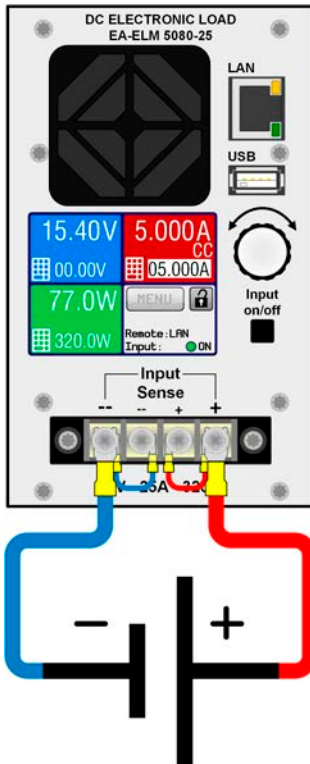
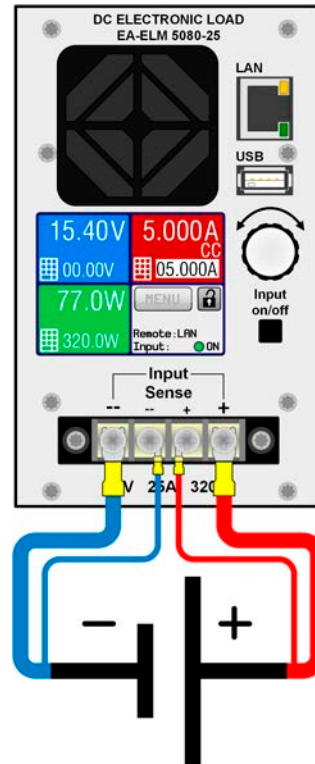

Figure 10 - Wiring example without remote sense (bridged)
Figure 11 - Wiring example with remote sense connected to source
- Remote sensing is only effective during constant voltage operation (CV) and for other regulation modes the sense input should be disconnected, if possible, because connecting it generally increases the oscillation tendency.
- Sensing cables must be connected Sense+ to + and Sense- to - at the source, otherwise the sense input of the electronic load can be damaged. For an example see *Figure 11*.
For both situations see the wiring examples in *Figure 10* and *Figure 11*.